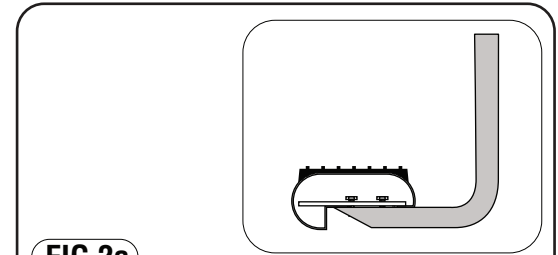

FIG 2a
1) Place clamp brackets on main bracket, turn 90 degrees to the main brackets. Place 5/16" hex bolt through top of bracket clamp in oblong hole to center hole in main bracket, placing 5/16" flange nut on bottom side. Fig 2a